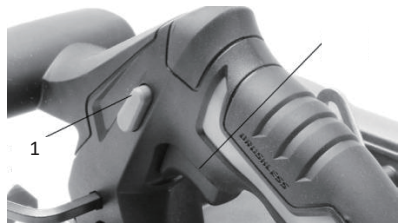

Fig. 5
6.2 Turning on and off (Fig. 5)
- a) Start the circular saw by first pressing the safety switch (1) and then the power switch (2).
- b) The lower blade guard (18) opens automatically when the saw is pushed forward. Do not open the lower blade guard (18) manually.
- c) Turn off the circular saw by releasing the power switch (2).